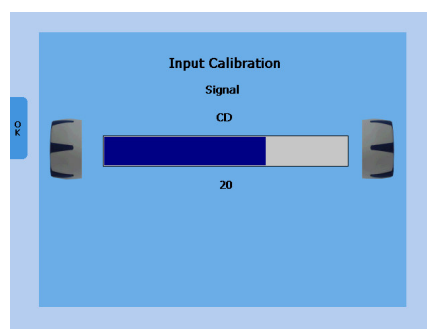

Figure 7b – Input Calibration
To calibrate the CD speech input, select CD with the signal selector key (11). Press the Monitor button (6) and then InCal (17) and the calibration screen appears (see figure 7b).